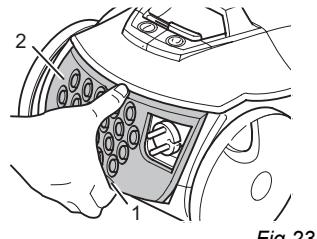

Fig.23
2. Open the exhaust filter cover. To do this, press the release on the underside of the appliance (Fig. 23/1) and pull the exhaust filter cover up and out.